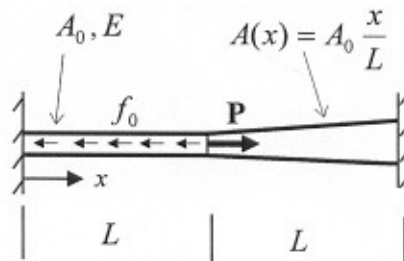

Fig. 1
- Q1.** Displacements and stresses in the problem shown in Fig.1 are to be determined by using (5) the *Rayleigh-Ritz* method, and a quadratic approximation function in the form:
Q2. Solve the problem in Fig. 1 by using *two linear* bar elements of equal length.